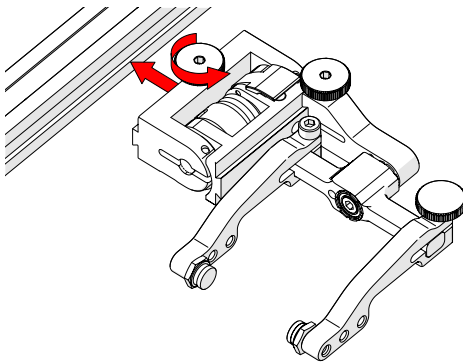

Fig. 87 - Attach to frame bar
1. Rotate the probe holder adjustment knob and attach the probe holder to a frame bar (Fig. 87).